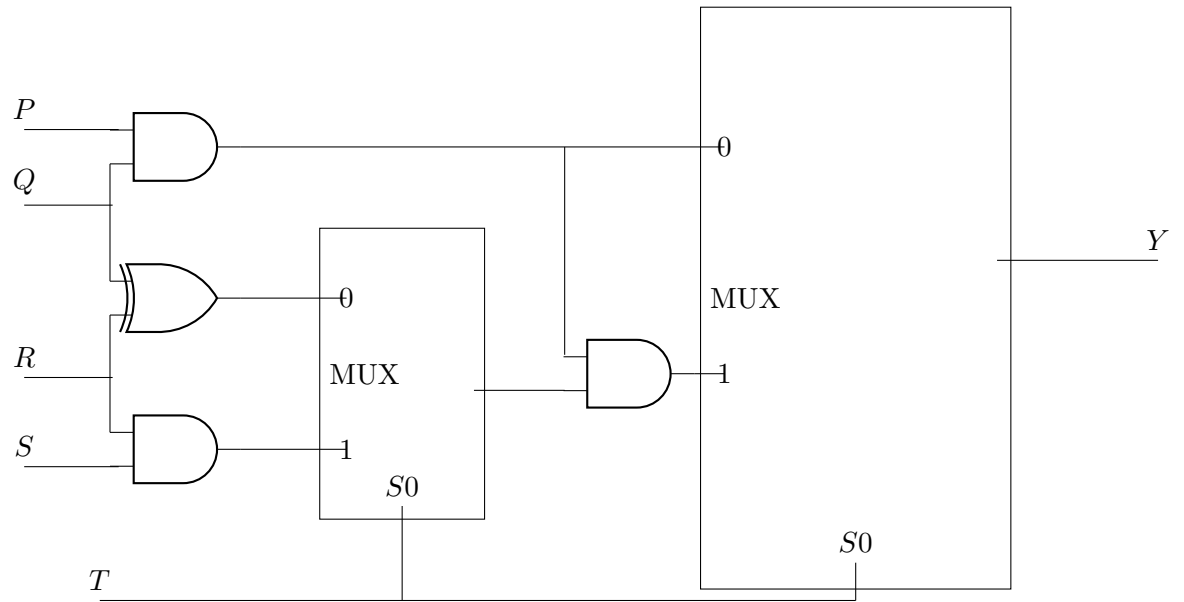

Figure 4.11:
24. The propagation delays of the XOR gate, AND gate and multiplexer (MUX) in the circuit shown in the Fig. 4.11 are 4 ns, 2 ns and 1 ns, respectively. If all the inputs P, Q, R, S and T are applied simultaneously and held constant, the maximum propagation delay of the circuit is (Gate EC-2021)